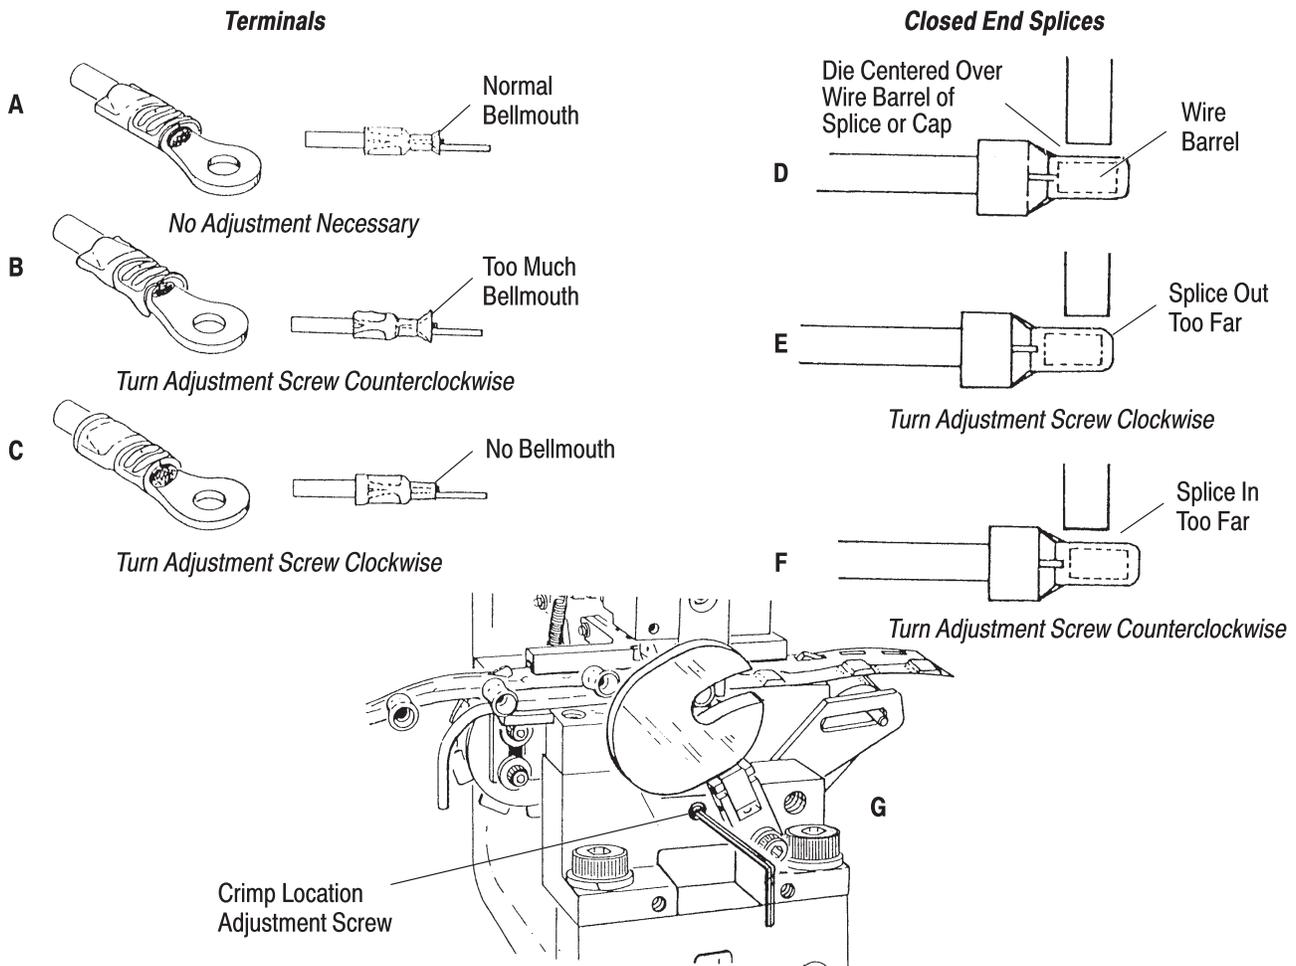

Figure 19
7.4. Crimp Location Adjustment (Figure 19)
Periodically, and after each change of dies, inspect the product for correct crimp location. Correct and incorrect crimp locations are illustrated in Figure 19. If adjustment is necessary, perform the following adjustment.
3. Insert a hex wrench in the crimp-location adjustment screw (Figure 19).